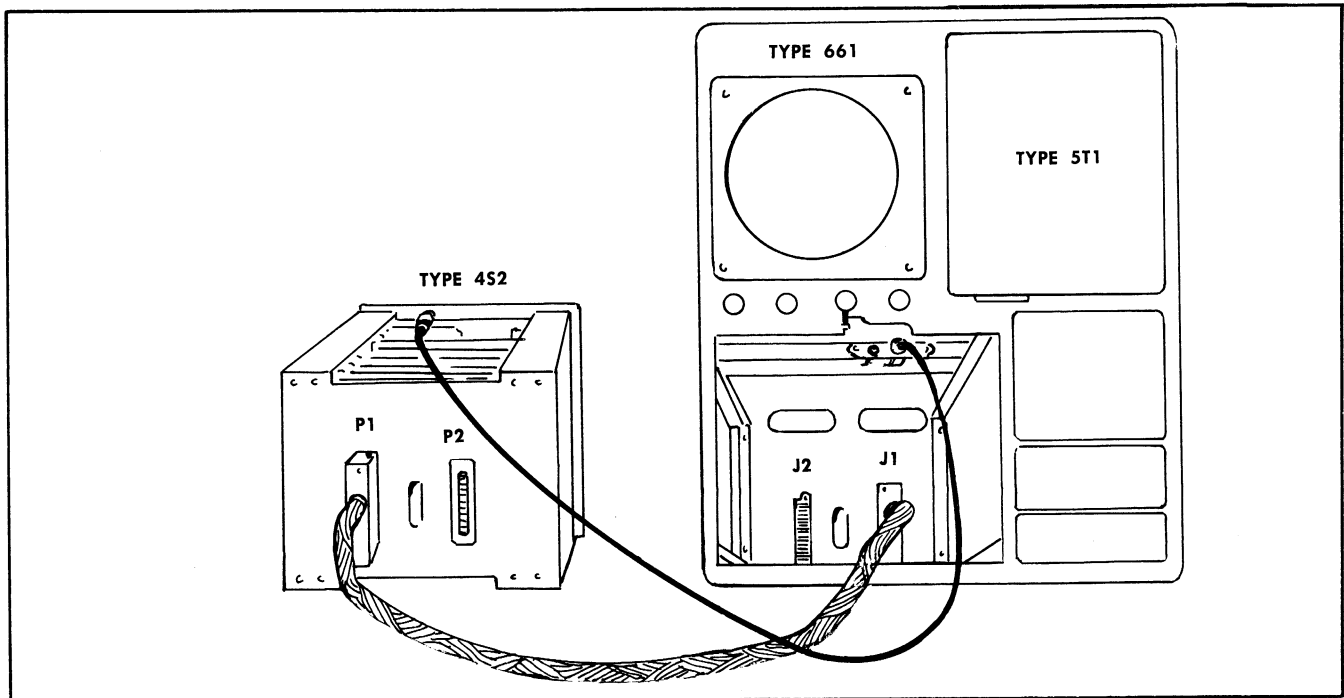

Fig. 6-1. Location of cables for operating Type 452 outside of Type 661.
Resistance to ground at P1 (see Fig. 6-1). All subchassis in place.
After making any resistance measurements, install the Type 5T1 Timing Unit into the Type 661 Oscilloscope. Connect the Type 452 to the oscilloscope using equipment items 11 and 12 (connect as shown in Fig. 6-1). Pull out the AC Amplifier subchassis, and reinstall using the subchassis extender board. Set the INTENSITY control at about 2 or 3 o'clock. Set the POWER AND SCALE ILLUM. control to turn on the oscilloscope and allow the instrument to warm up for 10 or 15 minutes before proceeding with the adjustments.